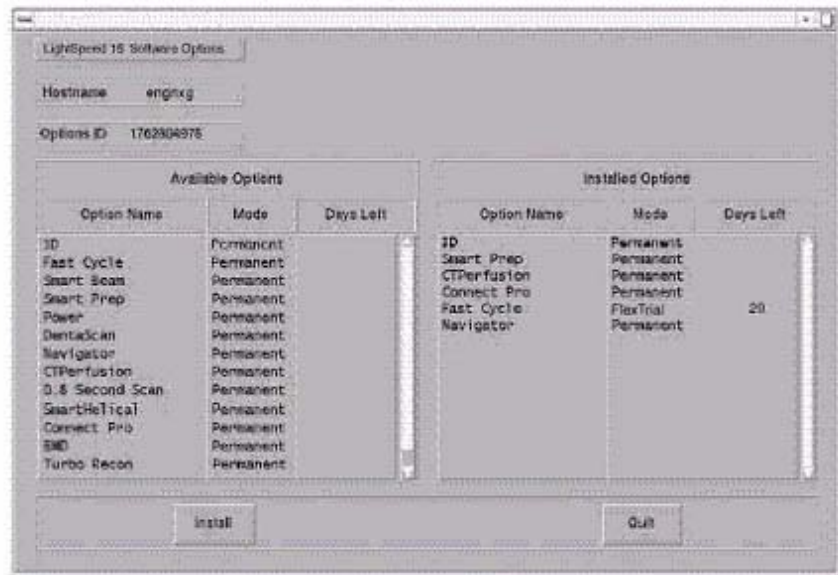

Figure 3-15 Software Options screen
- 9.) Click OK. Available options appear on the Software Options screen (Figure 3-15).